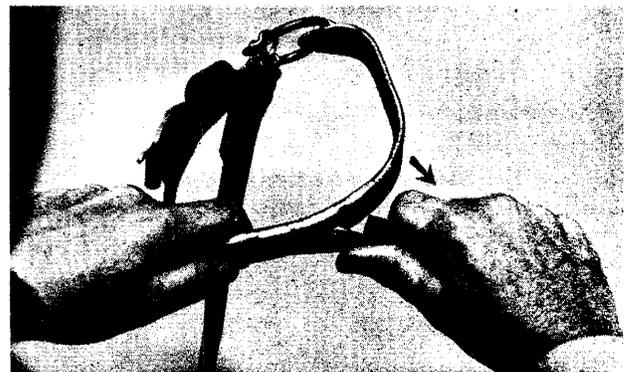

Fig. 20 — Honing Inner Surface
7.04 Hone the inner surface of the gaff by starting the stroke near the leg iron and continue over rounded curve of tip as indicated in Fig. 20. Stop the honing stroke before the stone slides off the end of the gaff to prevent dulling the tip. About 20 to 25 strokes of the honing stone should be enough. *Do not attempt to reshape the tip of the gaff.*